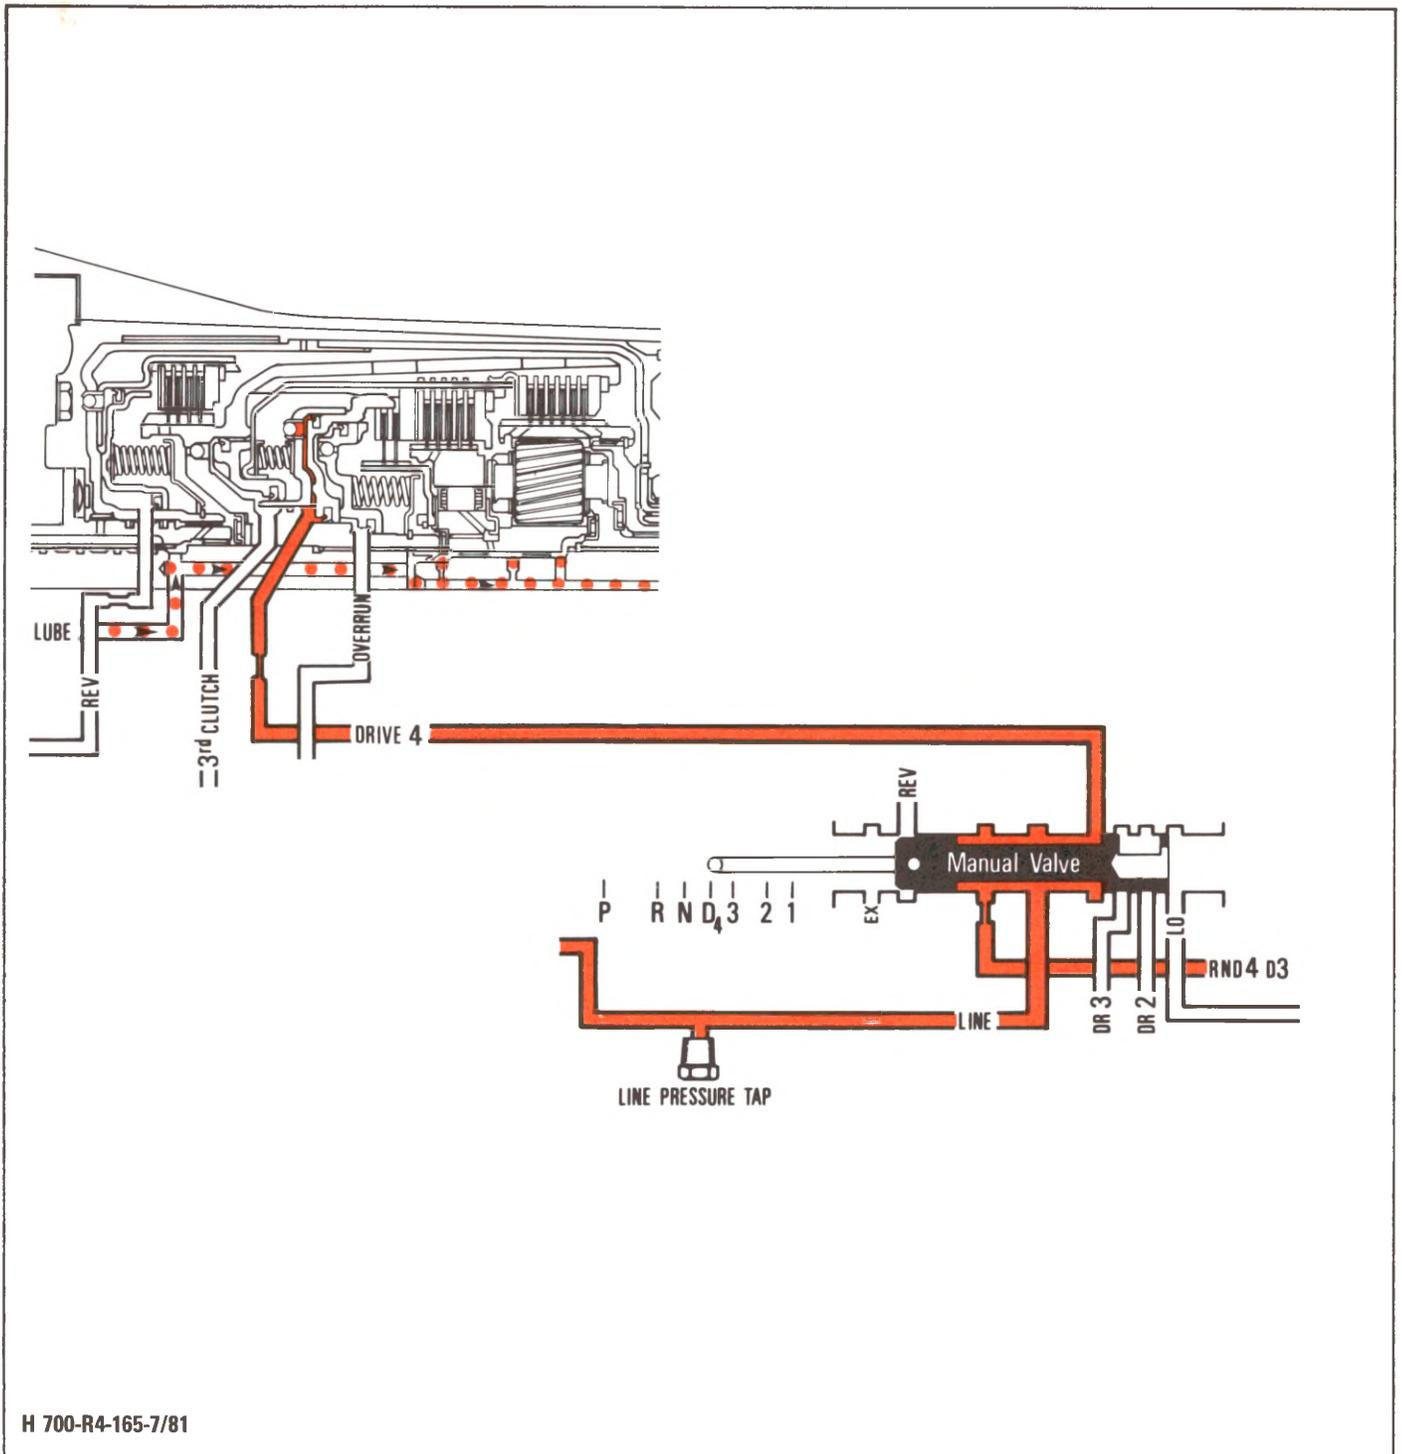

Figure 45 - Forward Clutch Applied
When the transmission selector lever is moved to the Drive (D) position, the manual valve moves to allow Drive 4 (D4) pressure to be delivered to the forward clutch (Fig. 45).